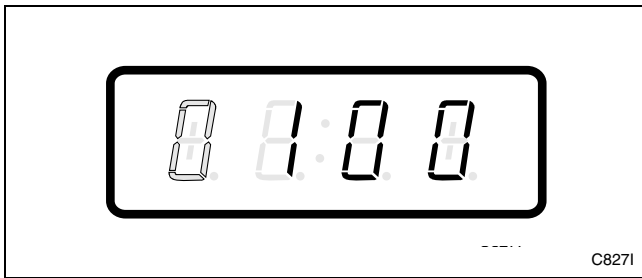

Figure 190
6. Press the START (enter) keypad to enter the fifth digit and display remaining four digits. The active digit will flash one second on and one second off. Refer to *Figure 190*.